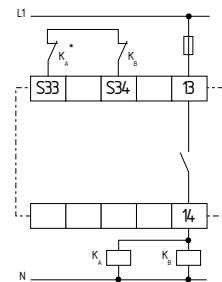

Fig. 12
**Dual-channel control with feedback circuit (see Fig. 12)**